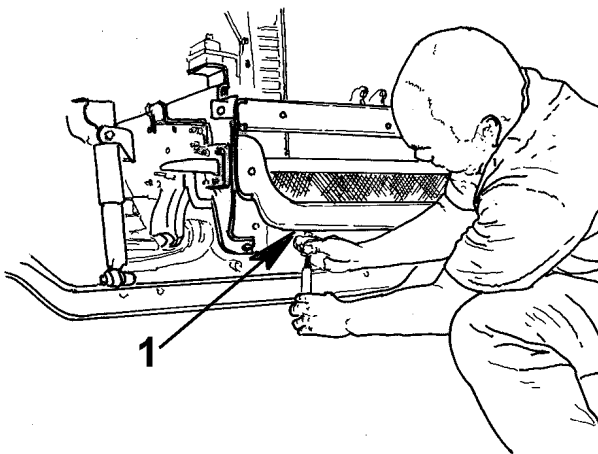

Figure 3 Lower Screen Removal (When Applicable)
1. Beginning at the front cross-member lower flange, loosen and remove the bolts (Item 1, Figure 3) securing the mesh screen protecting the lower section of the radiator core (when applicable).